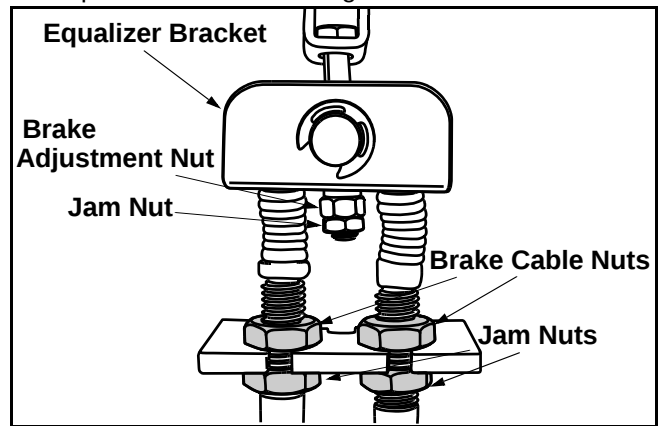

Figure 19
satisfactory brake performance is obtained and equalizer is level. See Figure 19.
- If this minor adjustment does not achieve satisfactory brake performance, loosen brake cable and jam nuts and adjust until desired brake performance is attained, again making sure to keep equalizer horizontal. See Figure 19.